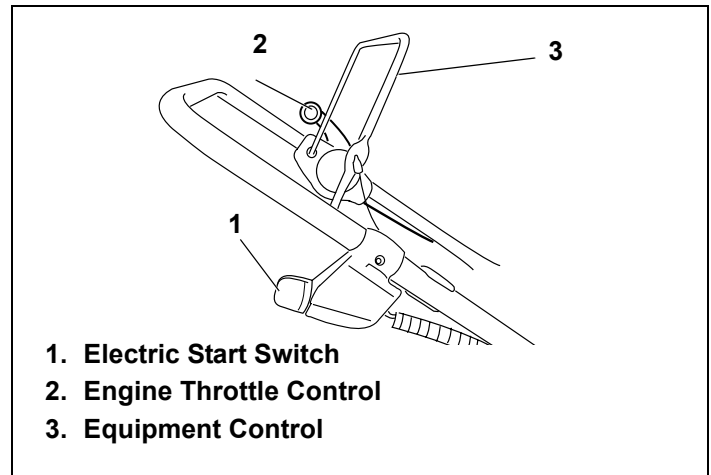

Figure 17. Typical Engine Controls
2. Move engine throttle control to "CHOKE" or "START" position, if present (see equipment manufacturer's instructions). See Figures 17, 18 and 19.
4. Operate equipment control to release engine brake or clutch, if present (see equipment manufacturer's instructions). See Figure 17.
- b. Move engine throttle control to "FAST" position. See Figures 17, 18 and 19.
- a. Move engine throttle control back to "CHOKE" position. See Figures 17, 18 and 19.
- b. Next, move engine throttle control to "FAST" position. See Figures 17, 18 and 19.